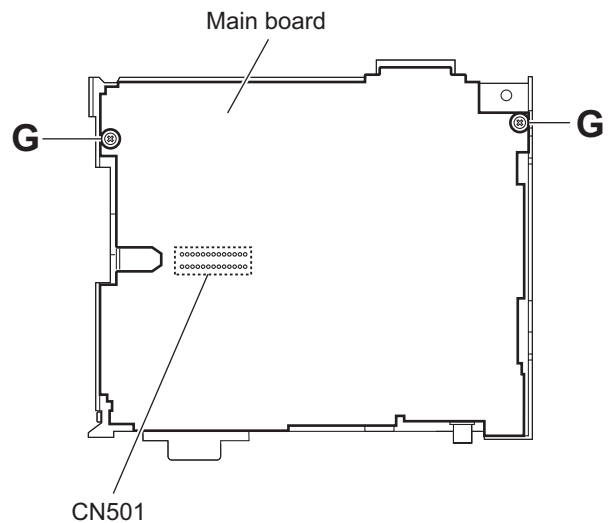

Fig.6
3.1.6 Removing the main board (See Fig.6)